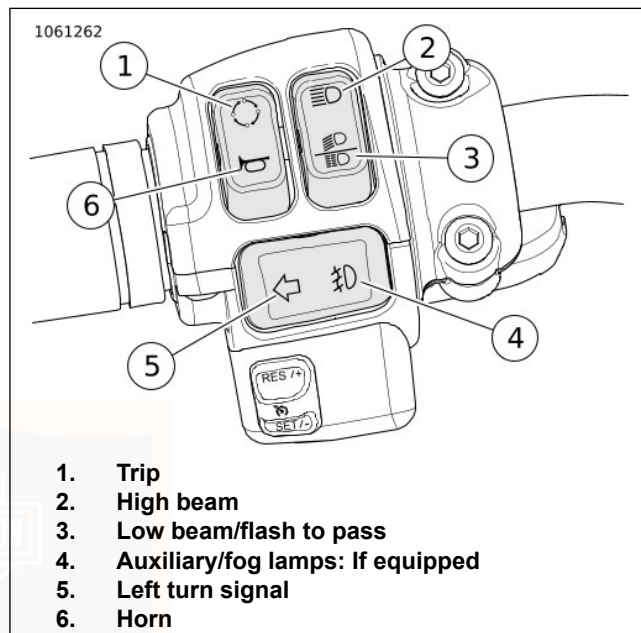

Figure 30. Left Hand Switch Module (typical)
See Figure 30. The trip switch (1) activates the trip odometers. The trip switch also is used to scroll through the optional screens of the odometer display. With the ignition off, the trip switch can activate time or odometer displays. Refer to Table 33.
See Figure 30. Press the high beam switch (2) to activate the high beam. The (blue) high beam indicator lamp is lit when the high beam is on. Refer to Table 33.
Low beam: See Figure 30. Press the bottom of the switch to (3) activate the low beam.
See Figure 30. Press the auxiliary/fog lamps switch (4) to activate the auxiliary/fog lamps. Refer to Table 33
Activate: See Figure 30. Press the left turn signal switch (5) to activate the left turn signal. Refer to Table 33.
See Figure 30. The horn is operated by pressing the horn switch (6). The horn can be activated for up to 10 seconds at a time. If the horn switch is held for a longer period, the horn automatically deactivates. Refer to Table 33.